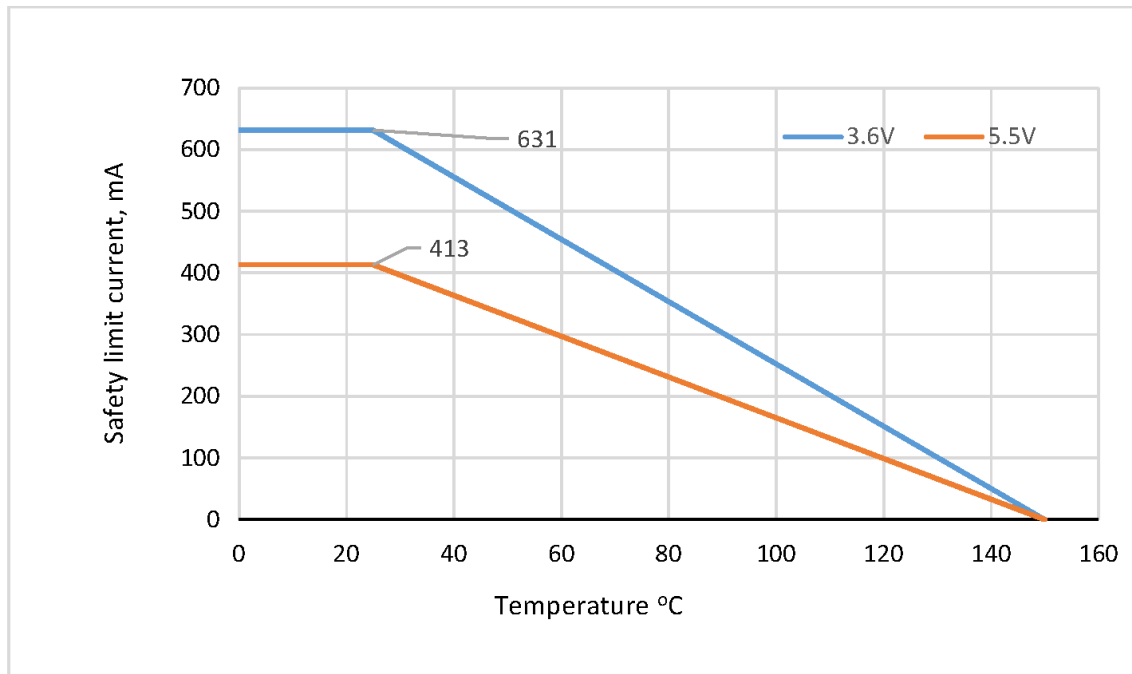

Figure 4.5. WB SOIC-16/20 Thermal Derating Curve Dependence of Safety Limiting Values
1. Maximum value allowed in the event of a failure. Refer to the thermal derating curve in Figure 4.5 WB SOIC-16/20 Thermal Derating Curve Dependence of Safety Limiting Values on page 27.